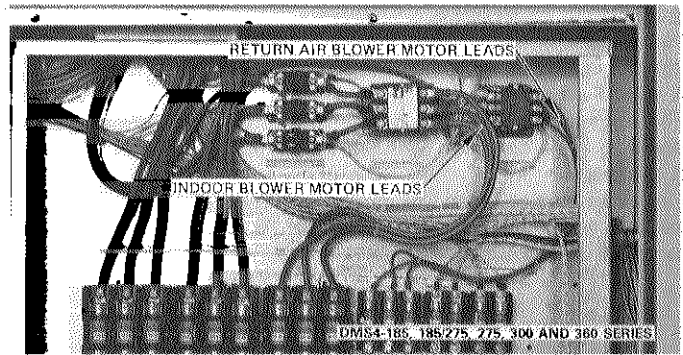
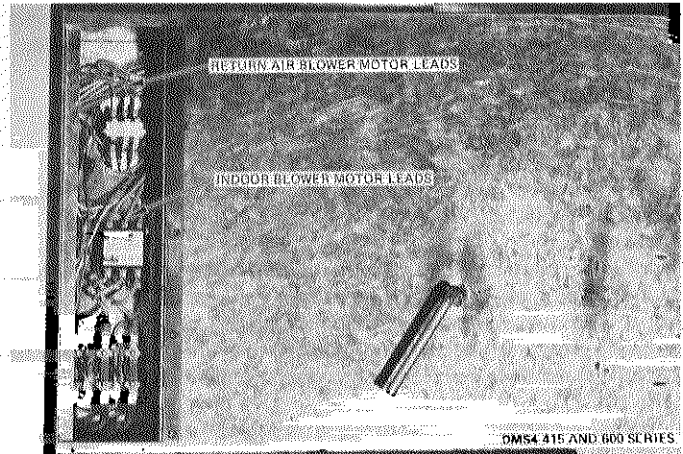

FIGURE 84
FIGURE 85
- 3 - 415 and 600 Units Only - Remove indoor and return air blower motor contactor access panel. Refer to Figure 84.
- 5 - Check amperage draw on each of the (3) wiring leads to the motor. See Figure 85 (185, 275, 300, 360 units) or Figure 84 (415, 600 units).